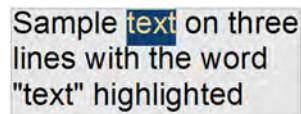

FIGURE 4.2
Step 4. A text field opens up with a blinking cursor. Go ahead and type something, pressing Enter once to go to the next line or twice to finish. Figure 4.2 shows what the basic text looks like hanging out in the middle of a blank screen (just before you press Enter one last time). If the text is too large to see completely or too small to be even readable, just zoom in or out to fit it nicely on the screen. You can zoom and pan even while you are typing.